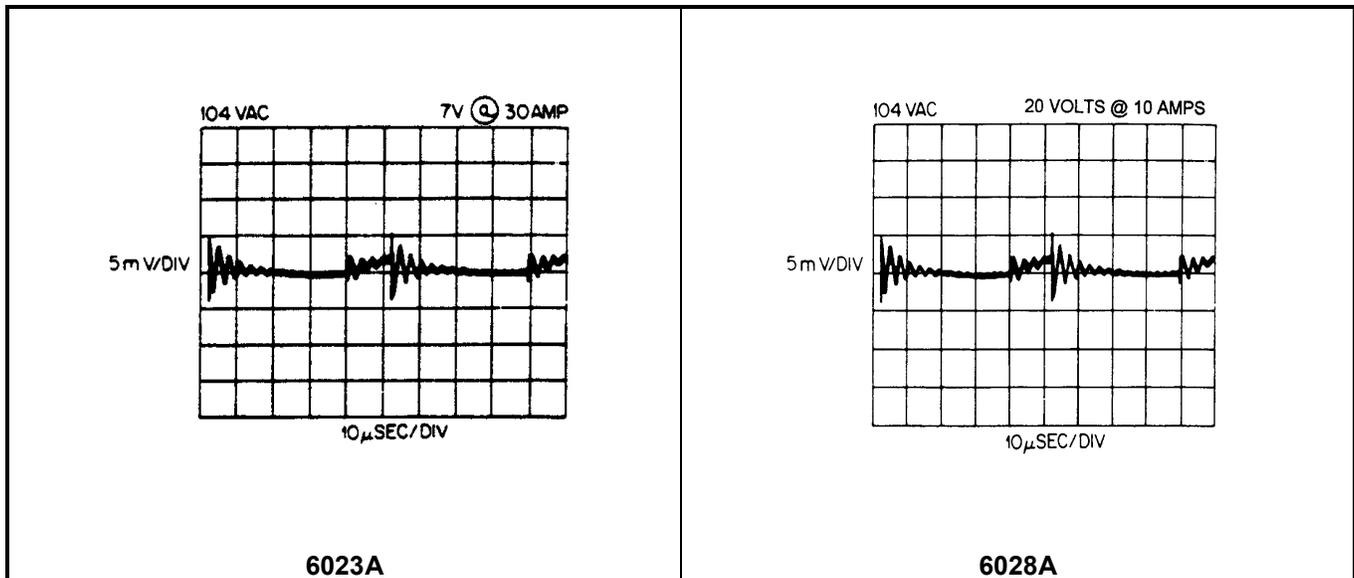

Figure 2-6. 20KHz Noise, CV Peak-to-Peak PARD
- e. Set the oscilloscope's input impedance to 50 Ω and bandwidth to 20MHz. Adjust the controls to show the 20KHz and higher frequency output-noise waveform of Figure 2-6.